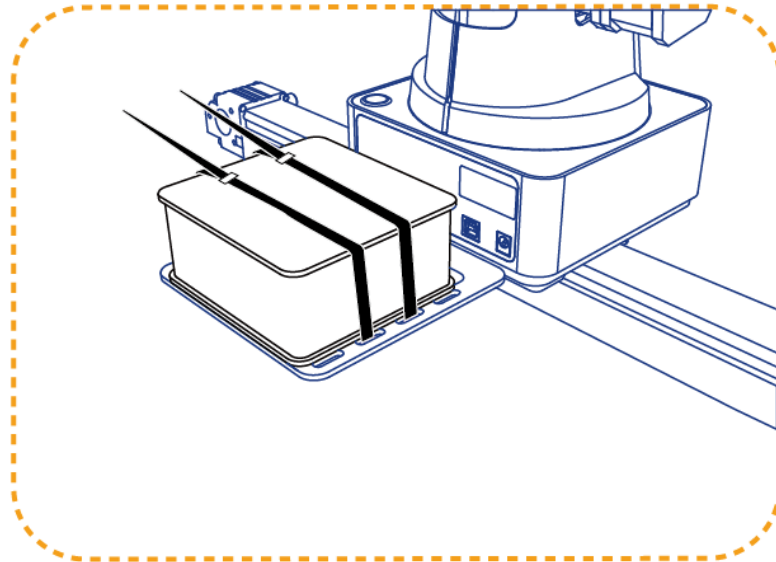

Figure 5.193 Fix air pump
2. Fix the air pump on the plate **c**, as shown in Figure 5.193. And connect the air pump to Dobot Magician. For details, please see *5.2.1 Installing a Suction Cup Kit*.